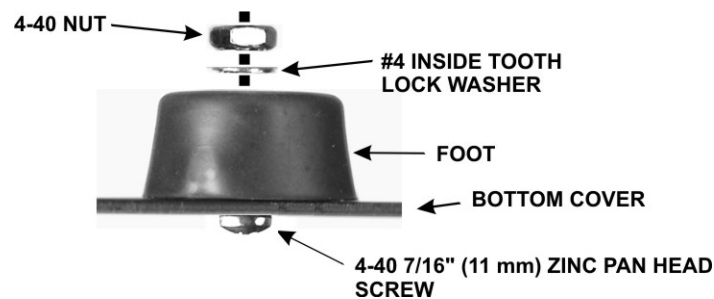

Figure 84. Installing Rear Feet.
2. **Page 58:** Replace the first three steps and Figure 84 (everything above the heading **KNB3 Noise Blanker** on the page) with the following. You can cut this out of the errata and paste it over the steps and figure in your manual.
Check the inside surface of the bottom cover for any masking tape that may have been left from the painting process. If found, peel it off. Two of the screw holes inside bottom cover section B have *not* had the paint removed from them. These are the mounting holes for the two rear feet. Attach each foot as shown in Figure 84. Note that these screws are also installed with their heads on the inside surface.